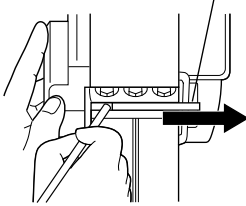

Fig. 5
- (2) As shown in **Fig. 5**, remove the carbide blade by sliding it with the attached box wrench.